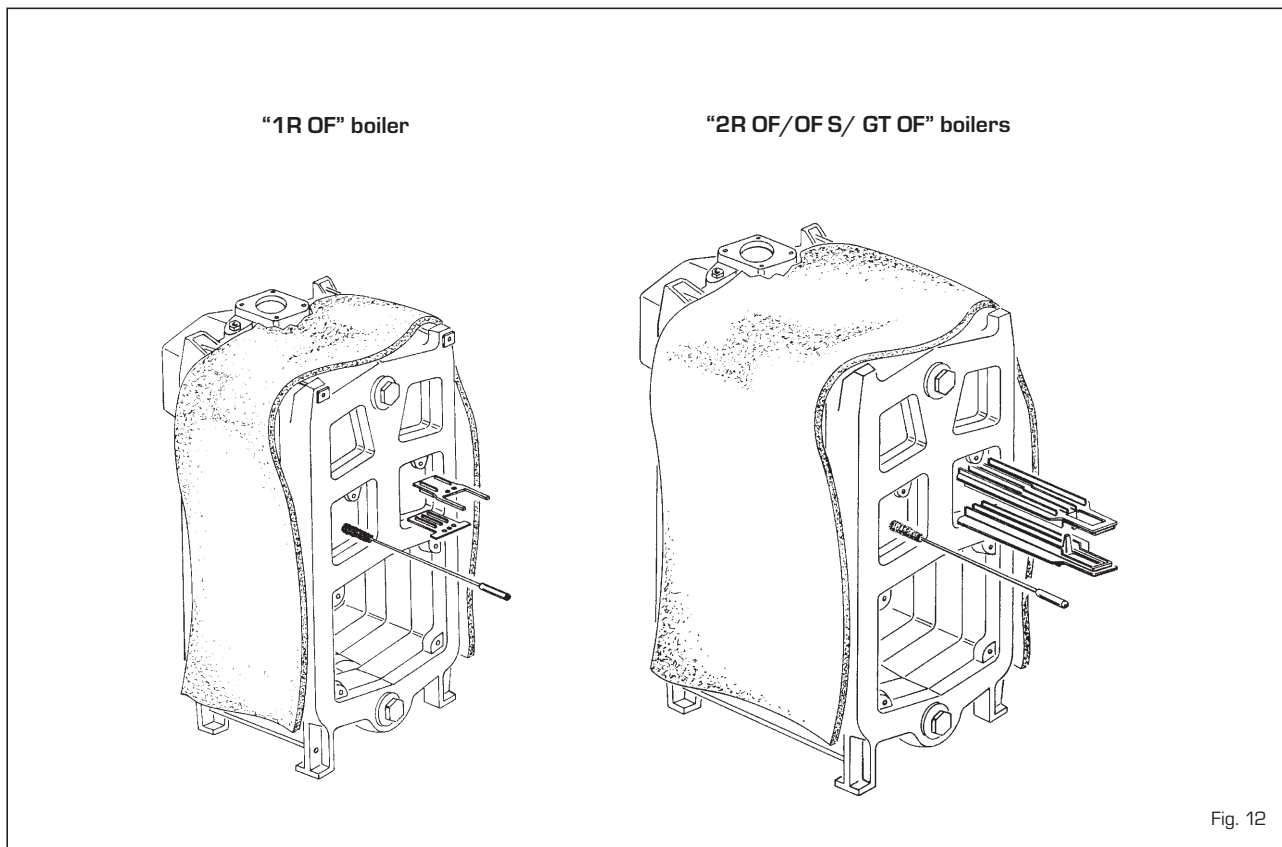

Fig. 12
3.3 CLEANING THE BOILER (fig. 12)